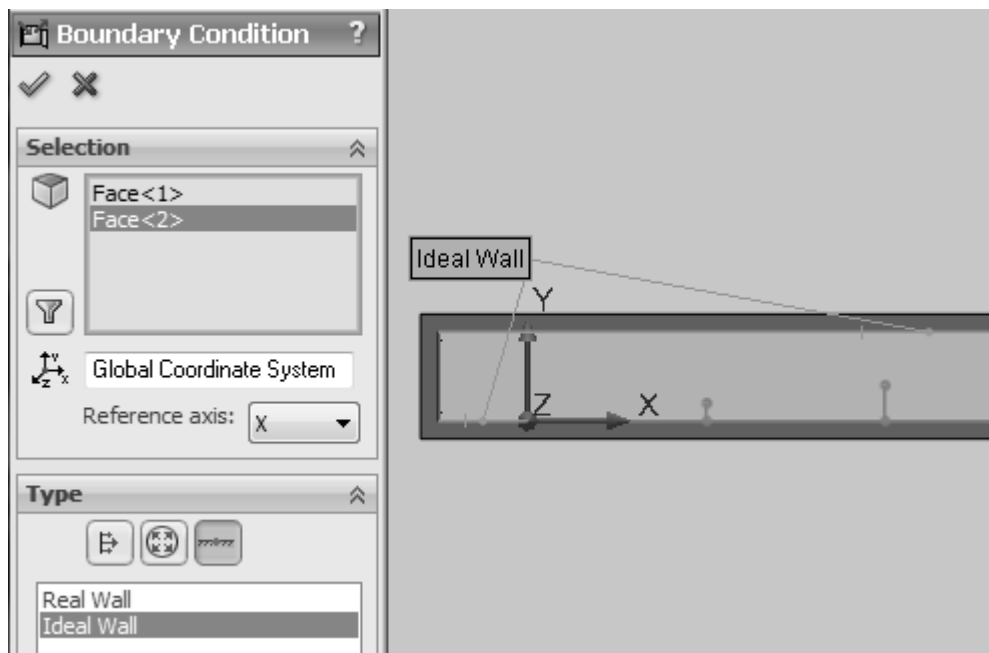

Figure 2.19 Ideal wall boundary condition for two wall sections
19. Enter the following boundary conditions: **Ideal Wall** for the lower and upper walls at the inflow region, see figures 2.19. These will be adiabatic and frictionless walls.